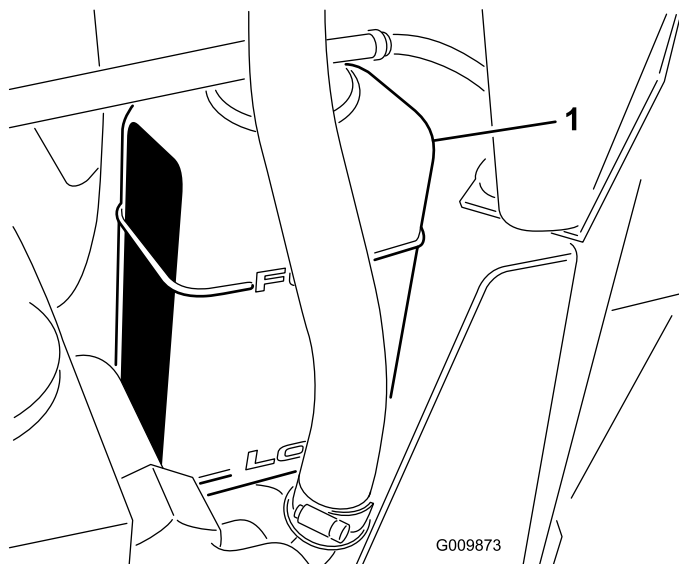

Figure 28
2. Check the level of coolant in the radiator and expansion tank (Figure 28).